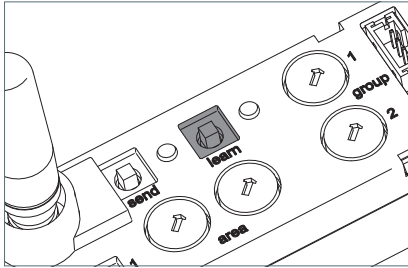

Fig. 33: "learn" key
- ▶ Press the "learn" key and keep the key depressed for at least 15 seconds until the "learn" and "send" LEDs are permanently lit, see Fig. 33.